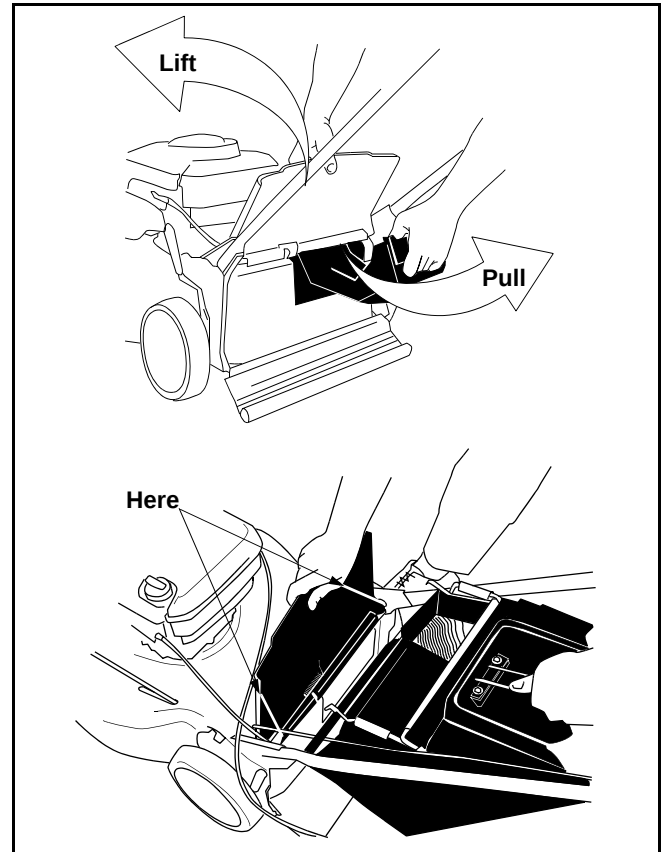

Figure 8
- Lift the rear discharge door and remove the mulching plug, if installed. See Figure 8.